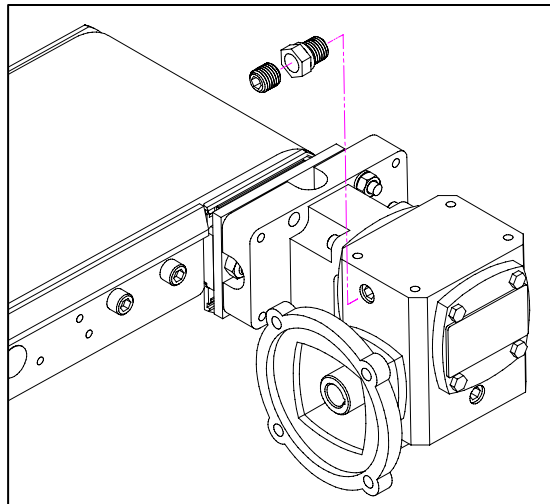

Figure 2
d. Gently thread the brass half into the plastic half, and install it into the vacated port in the reducer 1/4 turn past hand tightening (**Figure 2**).